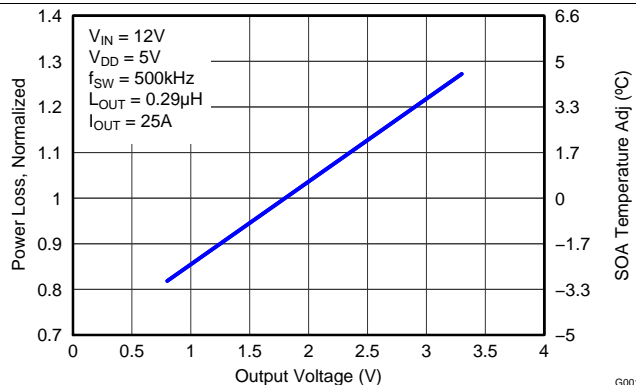

Figure 8. Normalized Power Loss vs Output Voltage
- Normalized Power Loss for output voltage ≈ 1.11 (Figure 8)
- SOA adjustment for output voltage $\approx 1.5^{\circ}\text{C}$ (Figure 8)